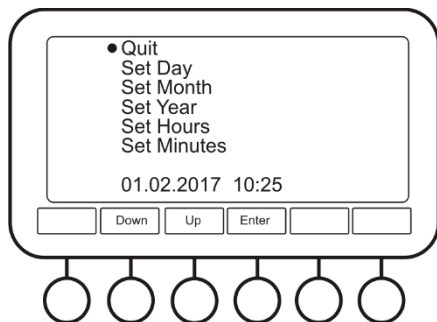

Fig. 4. Date & Time menu
4.9.2. **Date & Time** (fig. 4). To set date and time in this submenu, press **Enter** button to select the parameter, then **Down** and **Up** buttons to change the value and **Enter** button to confirm changes.